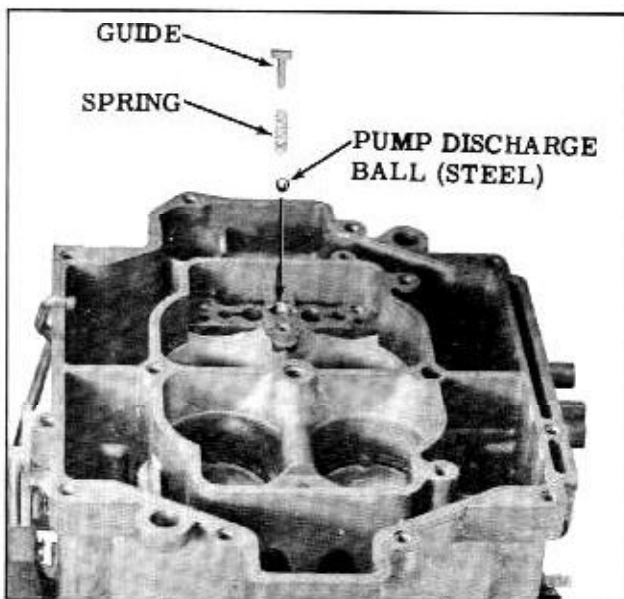

Fig. 8-114 Pump Discharge Spring Guide
5. Install the pump outlet steel ball, spring, and "T" shaped guide in the center hole of primary venturi cluster mounting surface in float bowl. (Fig. 8-114)